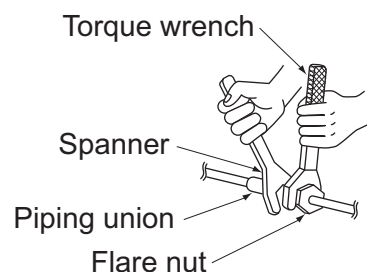

Fig. 12
- Be sure to use both a spanner and torque wrench together, as shown in the drawing, when connecting or disconnecting pipes to/from the unit. **(Refer to Fig. 12)**